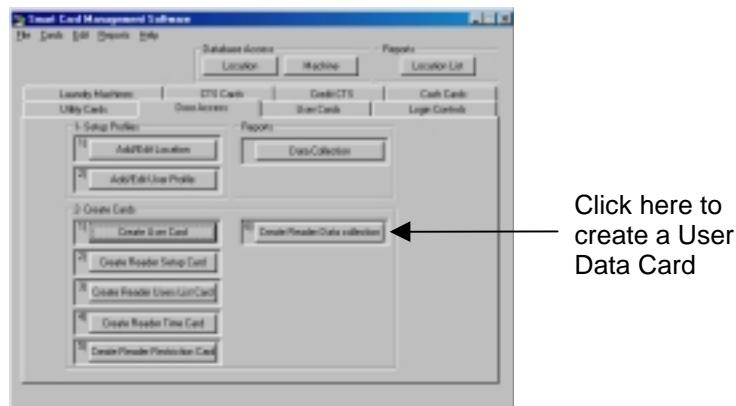

Figure 11.58 Creating a Reader Data Collection Card
2. Click the Create Reader Data Collection button in the Door Access Manager (Figure 11.58).